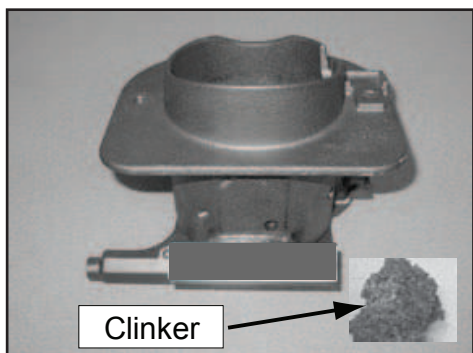

Figure 37.1 - Large Clinker
- b. Vacuum the ash from the heat exchanger with an upholstery brush to remove the majority of the ash. Be sure to vacuum the back of the baffle also. Inspect the drop tube and remove any residue build-up in the drop tube. **Figure 37.1**.